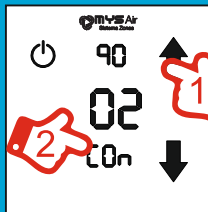

Fig. 11
- 3) Select the Code "02" by clicking on the **↓↑** icon and confirm by clicking on the **CO_n** icon again to activate the Wi-Fi configuration of the module and exit (Fig.11).